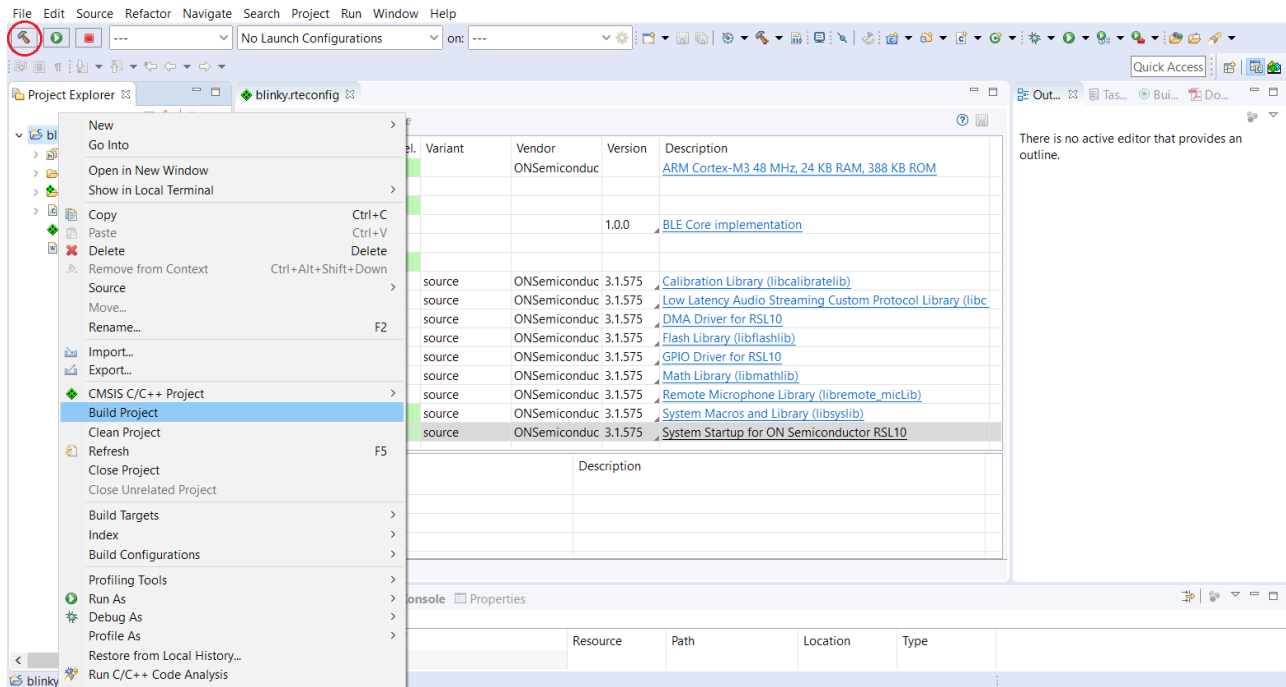

Figure 7. Starting to Build a Project in the onsemi IDE
1. Right click on the folder for *blinky* and click **Build Project**. Alternatively, you can select the project and click the Build Project icon, which looks like a hammer, as shown in the figure "Starting to Build a Project in the onsemi IDE" (Figure 7).